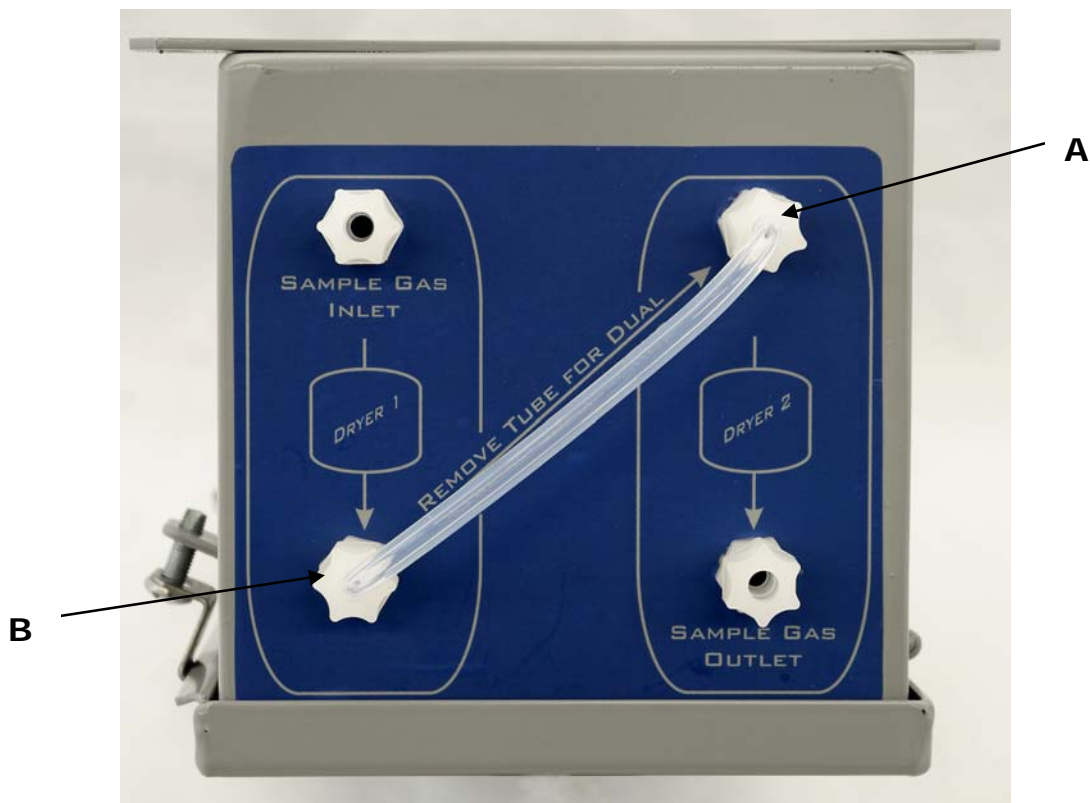

Figure 5- SDS-D202 Sample Connections
**Single stream application (Refer to figure 5)**
**Dual stream application** (Refer to figure 5)